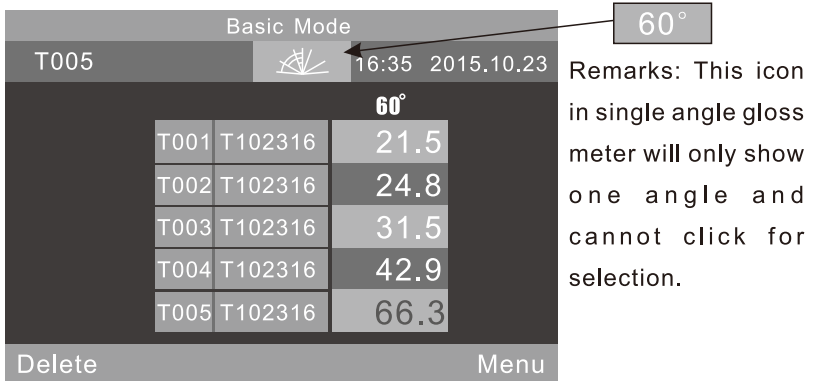

Figure 8 Single angle measurement under Basic Mode
(1) Single angle measurement in Basic Mode: e.g.: 60°. Press “Test” button will measure the gloss value under 60°, as shown in figure 8.